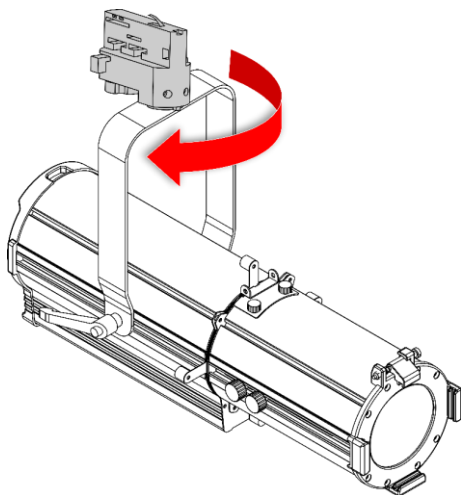
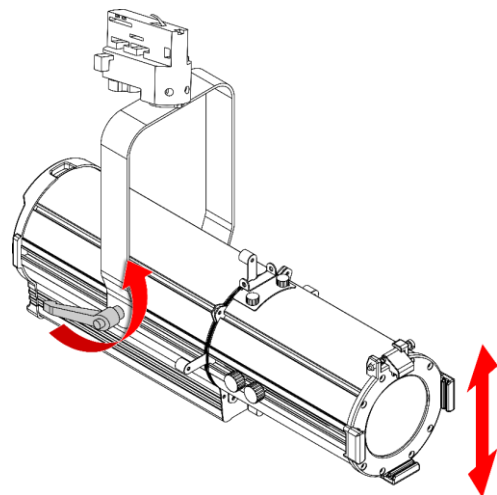

Fig. 11
Fig. 12
- 01) Pivot the device around the **track adapter (01)** to adjust the direction of the beam (see Fig. 11).
- 02) Turn the **adjustment handle (16)** counterclockwise to release it.
- 03) Tilt the device at the desired angle (see Fig. 12).
- 04) Turn the **adjustment handle (16)** clockwise to tighten it. Make sure that the device cannot move freely after the **adjustment handle (16)** is tightened.